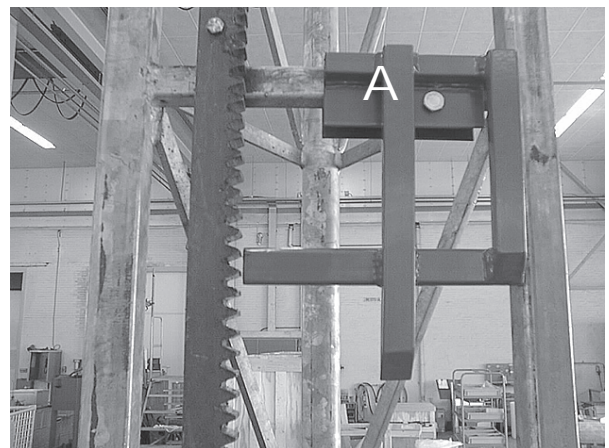

Fig. 6-08 Uppermost emergency stop
10. Mount the red striker plate (UPPERMOST and top mast emergency stop) to the mast side (fig.6-08, A).